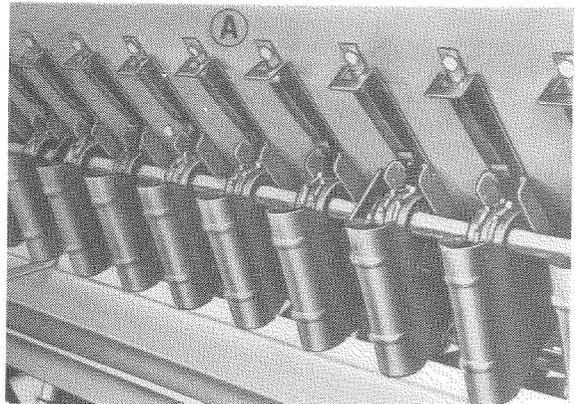

Fig. 17
- Adjust shutters for seed housings A (Fig. 17). They should be set equally open to such an extent that the seed does not run over the top of the sowing wheels while working.